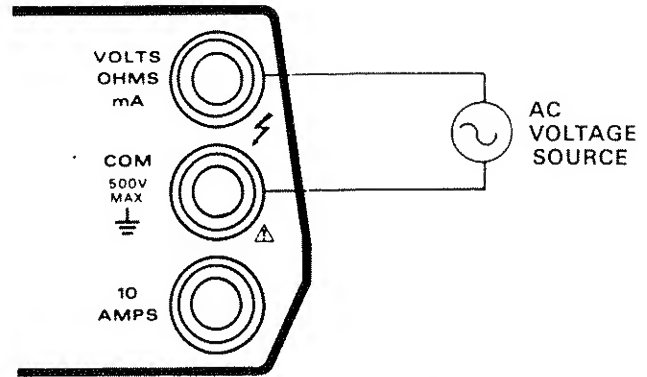

Figure 2-3. TRMS AC Voltage Measurements
4. Connect the test leads to the source as shown in Figure 2-3.